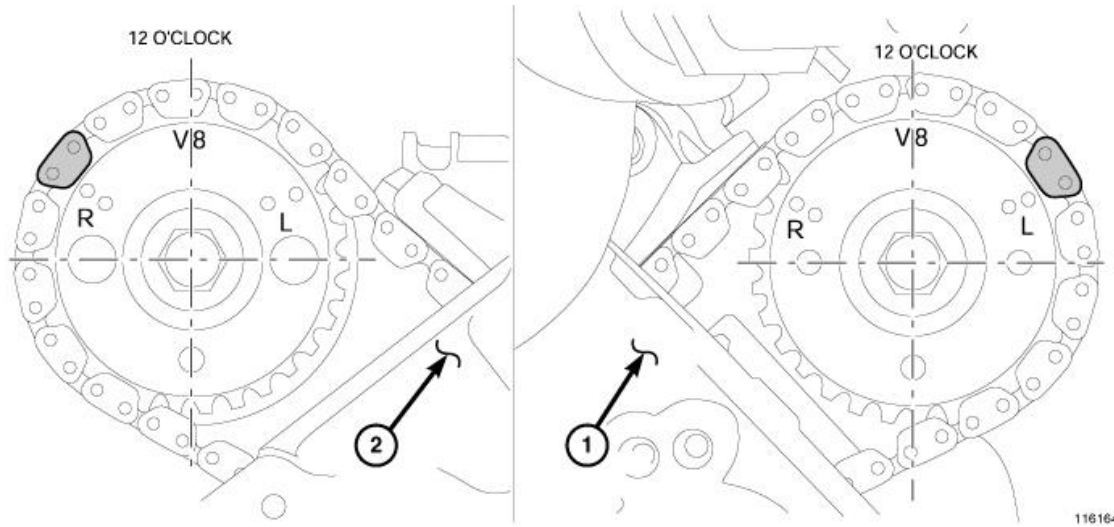

Fig. 96: Timing Chain to Sprocket Alignment
3. Mark the link on the secondary timing chain that is aligned with two dots on the cam sprocket as shown in illustration to aid in installation. See **Fig. 96**.